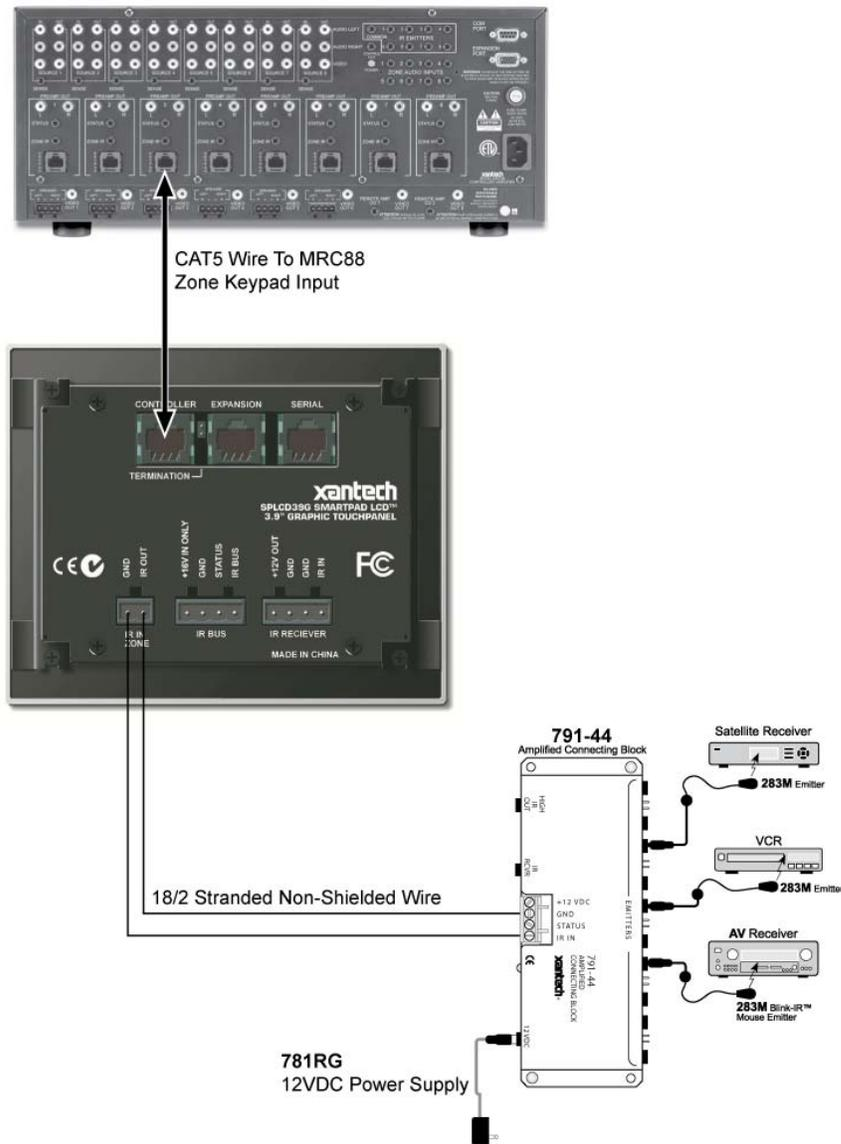

**Figure 10 – Interfacing to MRC and Serial Control**
- Using **CAT5 cable** terminated in RJ45 connectors in a pin to pin configuration, connect the **Serial Port** on the **SPLCD Rear Panel** to the **Serial Port** on a Xantech **RS42232.** (Figure 10)